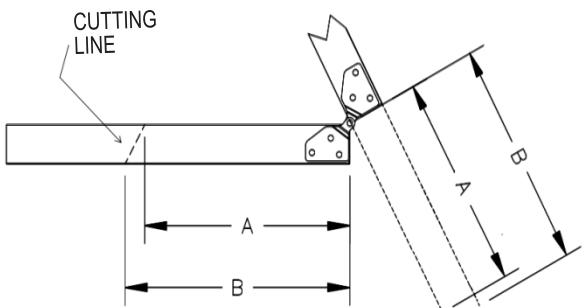

FIGURE 10
- B. With a straight edge, measure distances from middle section to floor, for both A & B lengths (Figure 10). Record the results in the space provide in table 2. Take measurements for both the left and right rails.